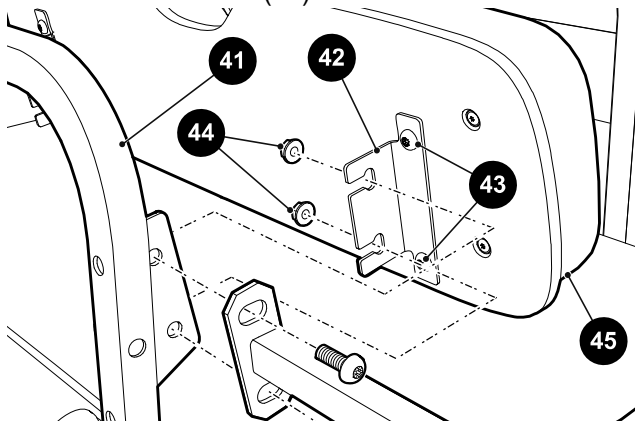

Figure 13 Rear Facing Seat Back
4. Slide the seat back assembly (45) with the brackets attached towards the back of the vehicle and remove it from the vehicle (Figure 13).
5. To separate the seat back assembly (45) from the mounting brackets (42), remove two torx screws (43) from each bracket (42).